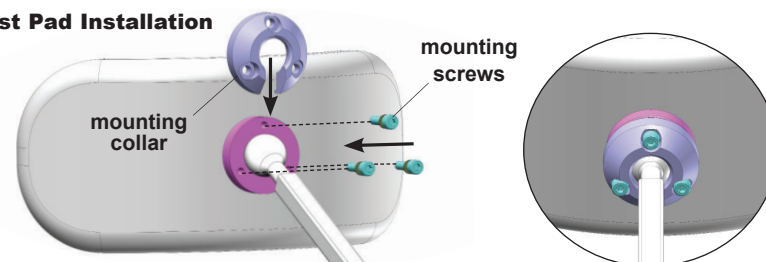

Fig. 3 Note: mounting hardware/collar included with headrest pads
2. Install headrest pad (*sold separately*) onto horizontal bar (C) hardware via the mounting hardware provided with headrest pad -see Fig. 3 above.
3. Loosen/remove lower D-Ring (D) from headrest post (F) using 2.5mm hex key.